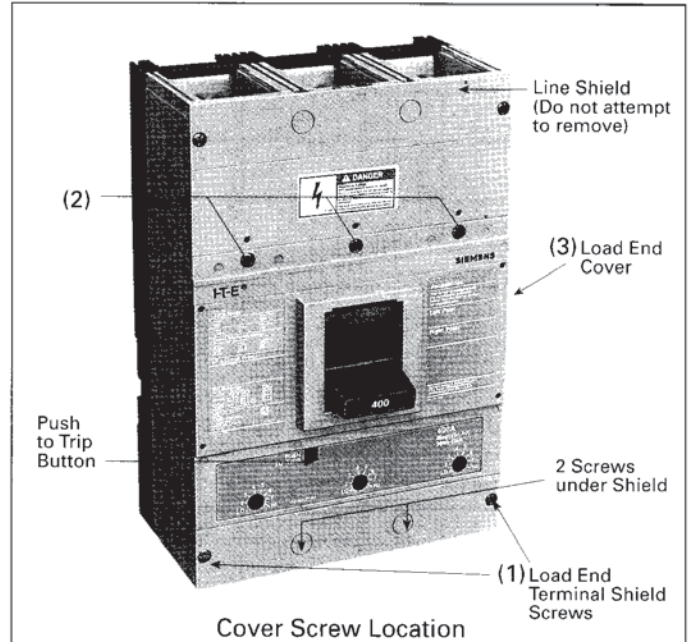

Figure 1
- A. Depress trip button (Figure 1) to trip circuit breaker prior to removing cover. Before attaching accessory unit, circuit breaker must be in tripped position.
- B. Remove two terminal shield screws on load end cover (1), load end cover screws (5 or 9) (2) and, if breaker is mounted, also remove mounting screws (not shown). Remove load end cover only (3). Accessory units can be mounted in either right or left poles of the circuit breaker, except types with an "FP" prefix or an "S" suffix, which can only be mounted in the right pole.